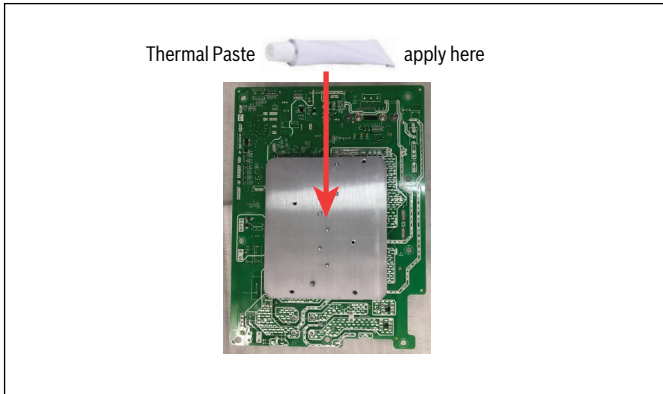

Figure 5
8. Apply the thermal paste on the heat sink of the new control board (see Figure 5).